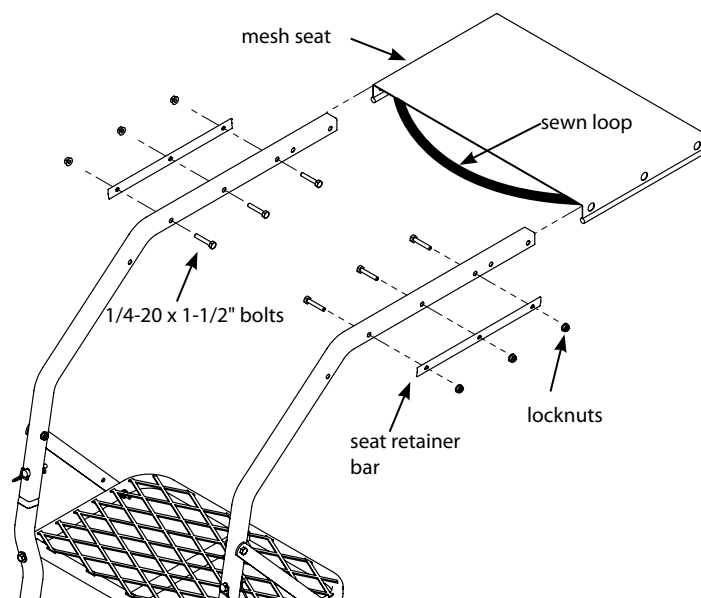
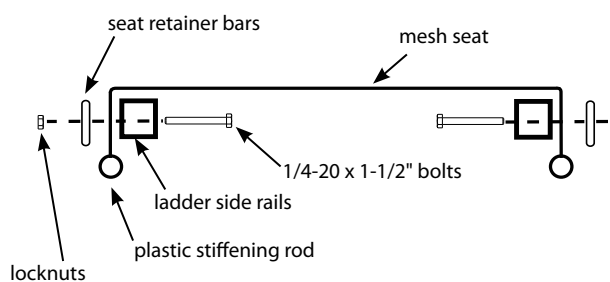

Figure 2
Figure 3
3. Slide the ladder side rails through the sewn loop of the seat (360003). Attach the seat and the (2) seat retainer bars (410072) to the ladder side rails using (6) provided 1/4-20 x 1-1/2" bolts and locknuts. **SEE FIGURE 2**. The plastic stiffening rod located in the sewn sleeve on each side of the seat **MUST** be positioned below the seat retainer bar to act as a seat stop and prevent the seat from pulling out during use. All bolts **MUST** go through the seat retainer bars, the holes provided in the seat and the ladder side rails. **SEE FIGURE 3**.